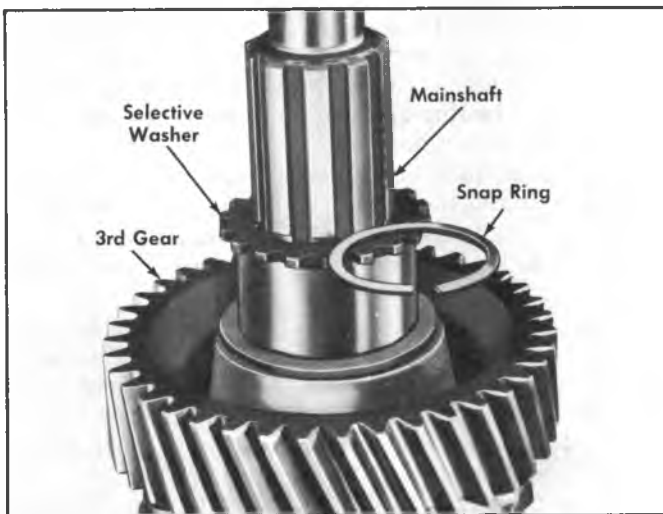

Fig. 12P—Selecting 4th Speed Gear Variable Thickness Retainer Washer
- b. While holding snap ring parallel to the retaining washer, slip snap ring into snap ring groove in mainshaft. Select variable thickness retaining washers, until a washer is selected that will assure a tight stack-up through the assembly (fig. 12P).